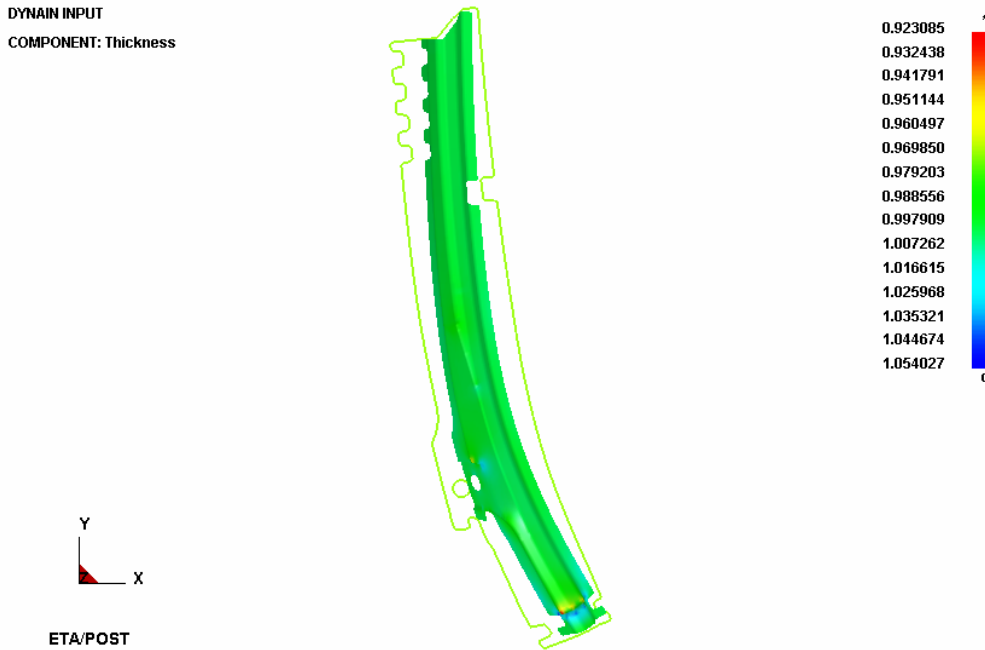

Figure 2.39: Blank outline
- 2) Use your mouse cursor to pick **example1_mstep.lin** file. Then, click on **Open** button to read in blank outline. See Figure 2.39.